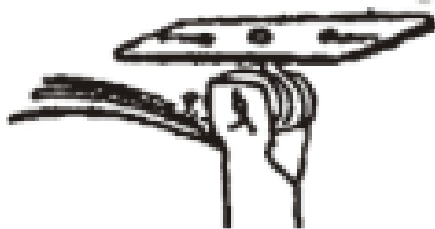

Fig. 4
2. Be certain rubber roller is fully locked up into position. Ie. No metal to metal contact as shown in Fig.4